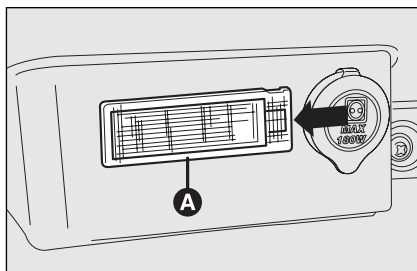

fig. 52
- ☐ remove the bulb **A**-fig. 52 levering in the points shown by the arrow.
- ☐ refit the light unit **A**-fig. 52 inserting it in its correct position firstly on one end and then on the other until it clicks into place.